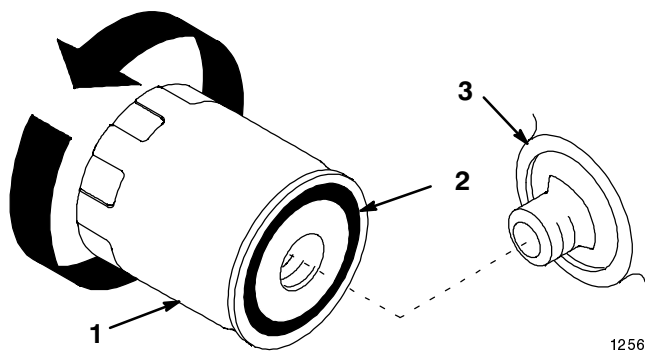

Figure 36
2. Remove the old filter and wipe the filter adapter (Fig. 36) gasket surface.
3. Apply a thin coat of new oil to the rubber gasket on the replacement filter (Fig. 36).
- Install the replacement oil filter to the filter adapter. Turn the oil filter clockwise until the rubber gasket contacts the filter adapter, then tighten the filter an additional 1/2 to 3/4 turn (Fig. 36).